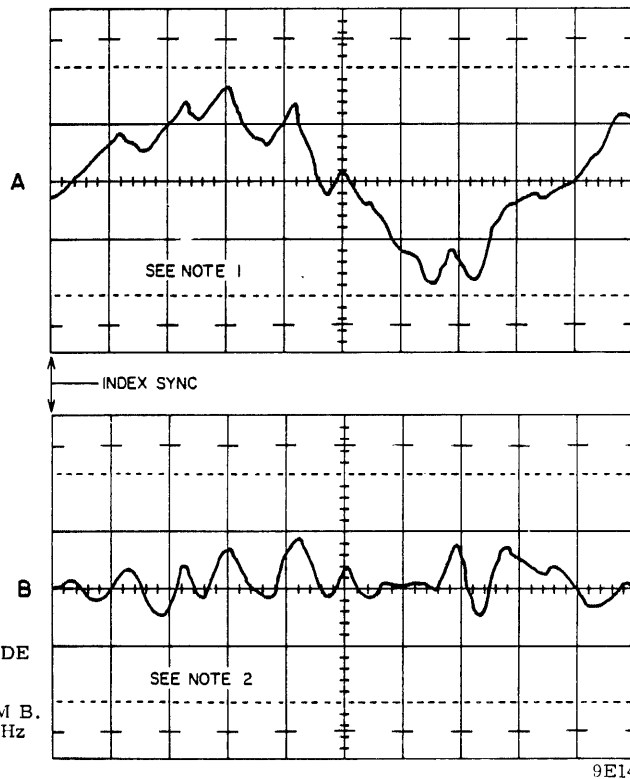

Figure 5-7. Track Following Check Waveform
2. Command direct seek to cylinder 400 (200).
4. Observe display and refer to figure 5-7. As runout increases, waveform sinusoidal amplitude increase.